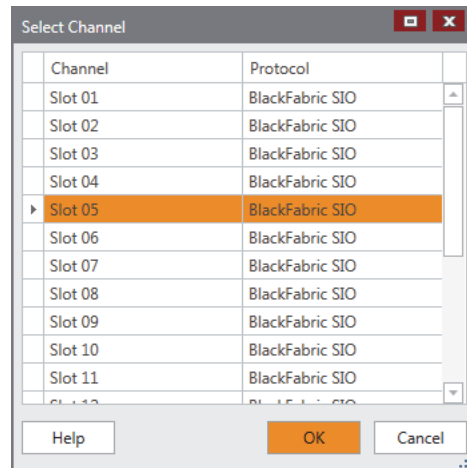

Figure 11-11 Select BMI Slots (Manually Adding DTM)
12. If you elected to manually add a gateway DTM for SIO Hart, you will be prompted for a list of channels to scan as shown in Figure 11-11. These correspond to physical slots in the BMI. Select the slots you would like to scan and then click OK.